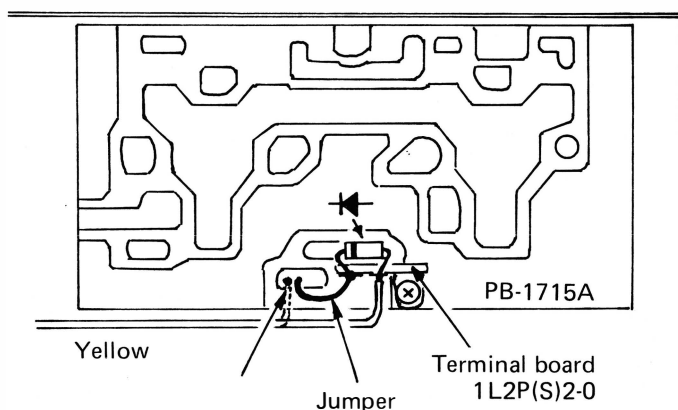

Figure 1
- (1) Fix a three-terminal soldering post to the chassis, using a self-tapping screw, as illustrated in Fig. 1 .
- (2) Solder a 10D10 diode to the post as shown, being careful to observe proper diode polarity.
- (3) Remove the yellow wire previously connected to the circuit board, as shown in Fig. 1 . Solder it to the anode of the diode, as shown in the drawing.
- (4) Connect a lead from the cathode end of the diode to the circuit board, in the position previously occupied by the yellow wire.
- (5) The modified schematic is shown below.